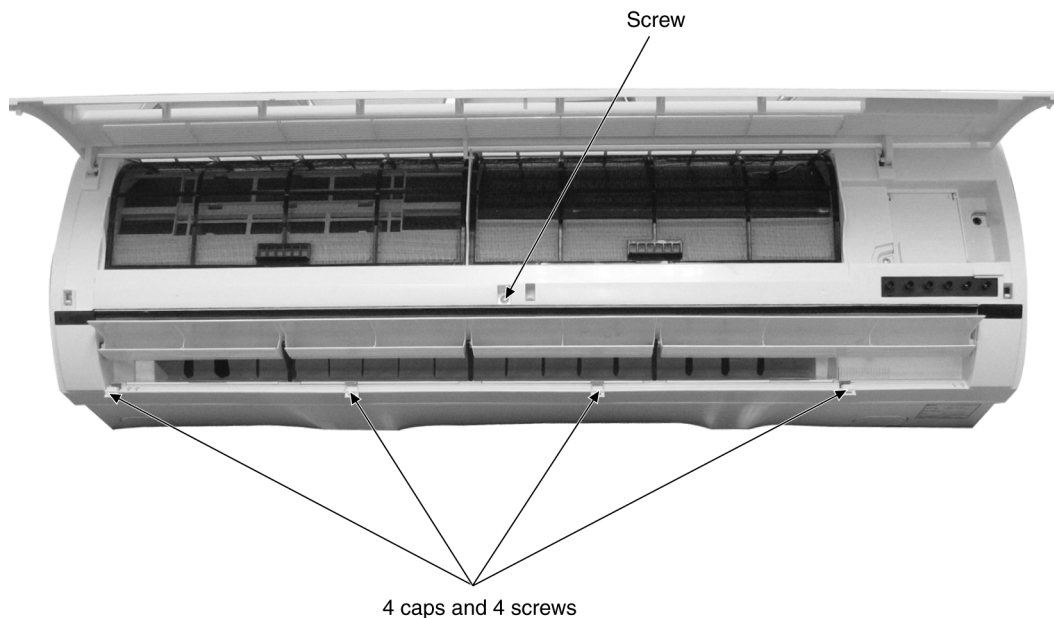

Fig. 1
- Remove the screw at the middle of the Front Grille. (Fig. 1)
- Remove 4 caps and 5 screws at the bottom of the Front Grille. (Fig.1)